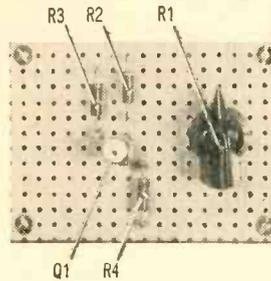

Fig. 2. Voltage trigger is first experiment which gives clue to unijunction's operation. Layout of parts on a perforated circuit board is simple and uncrowded.
**Voltage Trigger.** The set up for the first experiment (Fig. 2) illustrates what we've
Fig. 3. Schematic diagram of the Voltage Trigger shown in Fig. 2. Because only DC is involved, the actual parts layout is not critical; see text for information regarding role of DC voltmeters M1 and M2.
Fig. 4. Circuit board layout for Sawtooth Oscillator is not much different than that in Fig. 2. In addition to inclusion of a capacitor (C1), some parts values have been changed.